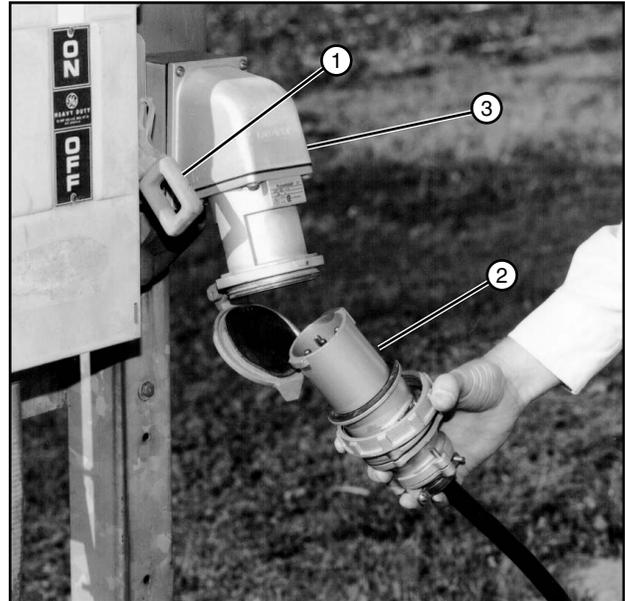

Figure 45-1 1. Service Disconnect - OFF
24. With the service disconnect in the OFF position, plug the power plug into the receptacle. See Figure 45-1.